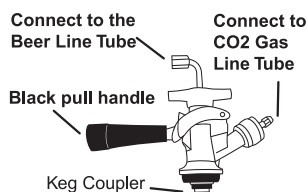

fig.1
1. Make sure the black pull handle of the tap is in the closed (up) position before installing it on the kegerator (Fig.1 - below). Insert the keg coupler into the locking neck of the beer keg and turn clockwise  $\frac{1}{4}$  to lock it into position (Fig.2 - below). This means that it is secured to the kegerator.